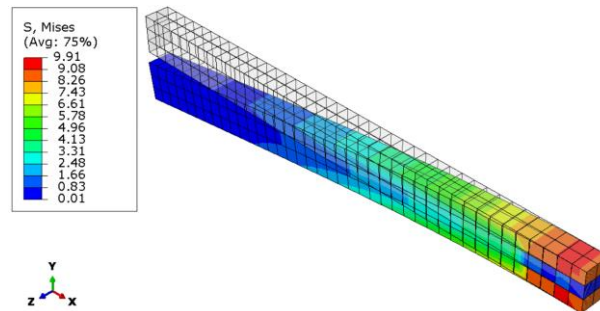

Figure 1-34 – von Mises contour plot.
2. In the toolbox, click  (or select **Plot** → **Contours** → **on Deformed Shape** from the main menu bar) to view a contour plot of the von Mises stress, as shown in Figure 1-34.